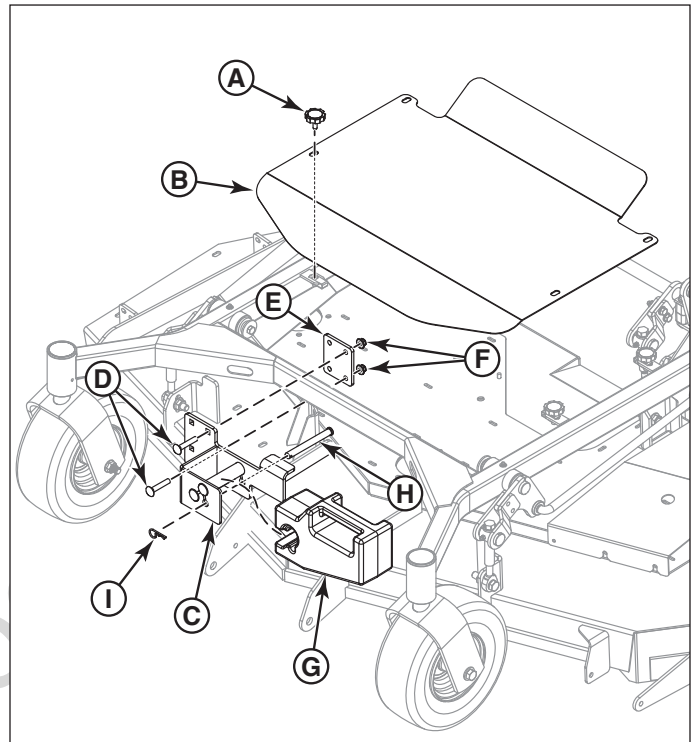

Figure 1. Weight Installation
1. Temporarily remove the four (4) knobs (A, Figure 1) and the center deck guard (B) from the walk behind mower.
2. Center the weight bracket (C) on the front cross rail of the walk behind mower. The top lip of the weight bracket rests on the cross rail.
3. Install the four (4) 3/8" X 2 carriage bolts (D) through the weight bracket and the backing plate (E) and secure with four (4) 3/8 hex nylock flange nuts (F).
4. Install the weight (G) into the weight mount.
5. Install the 1/2" X 4-1/2" clevis pin (H) through the weight mount and the weight to lock the weight in place.
6. Install the hair pin (I) into the clevis pin to lock it in place.
7. Re-install the center deck guard and secure with the four (4) knobs.